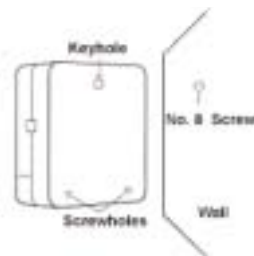

Figure 15: Mounting the Timer
- Screw a No. 8 screw through each of the two holes at the bottom of the timer box into the wall [See Figure 15].